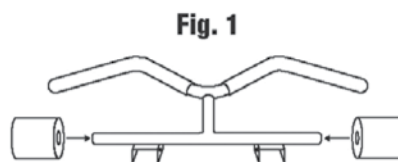
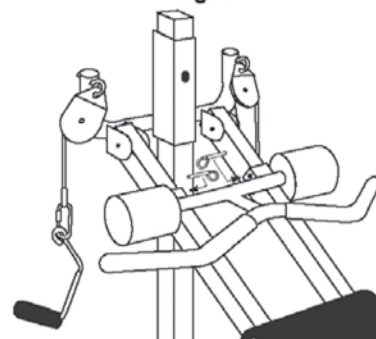

Fig. 1
Fig. 2
If the Stopper at the bottom of the Vertical Column has not already been installed, please do so now. Locate the Stopper which is packed in Miscellaneous Accessories (See Product Specifications on page 3 of this manual). Unscrew nut on the end of the Stopper and remove. Insert the Stopper into the hole located in the center of the Back Crossbar. (See Fig. 1) Screw the nut back onto the Stopper and tighten with Allen Wrenches provided. (See Fig. 2)
2. Then, attach Foam Pads on the Crossbar as shown in Figure 1. Let dry before beginning to exercise with the Wing Accessory.
3. Insert the 2 Medium Hitch Pins through the holes on the wing accessory brackets and the hole on the rails, as shown in Figure 2.
2. With the small end of the Ab Board closest to you, securely attach the appropriate Handle with 4 Flat Washers, Spring Washers and Hex Bolts with Hex Wrench provided. See Fig 1.